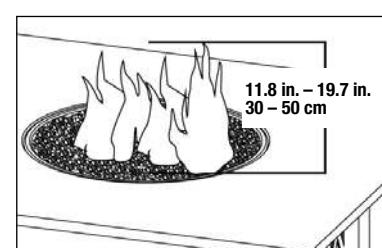

Figure 5
13. After lighting, observe the burner flame. Make sure all burner ports are lit and flame height matches illustration (Figure 5).